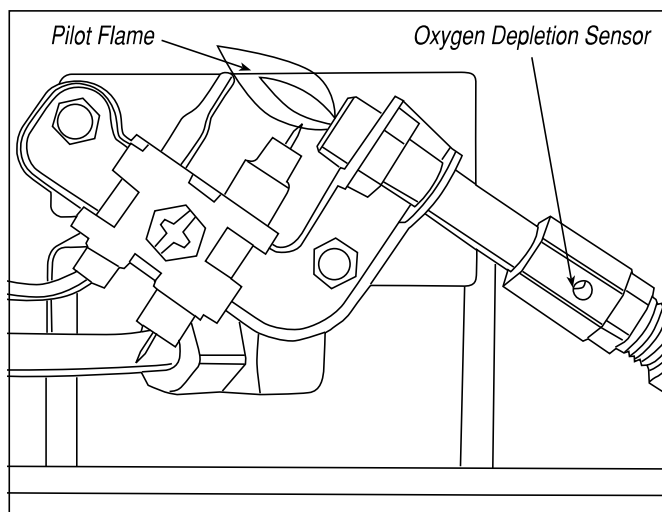

Figure 3
Visually inspect the pilot flame and burner periodically during use. The pilot flame should be blue in color (not yellow) and will extend beyond the thermocouple. The flame will surround the thermocouple just below the tip, see Figure 3. A slight yellow flame may occur where the pilot flame and main burner flame meet. The burner(s) should be bright orange (with a slight blue color around the border, a red-orange haze that is visible on the ceramic tile is acceptable) and without a noticeable flame. A blue flame that rolls out at the top of the ceramic tile indicates an accumulation of dust, lint or spider webs inside the casing assembly and main burner assembly. If the pilot is yellow or the burner has a noticeable flame, cleaning may be required. Use the following procedure to inspect the casing assembly and main burner assembly.
- 9 Inspect and clean pilot (mounted to bracket) by using a vacuum or apply air pressure through the holes in the pilot indicated by the arrows in Figure 3.